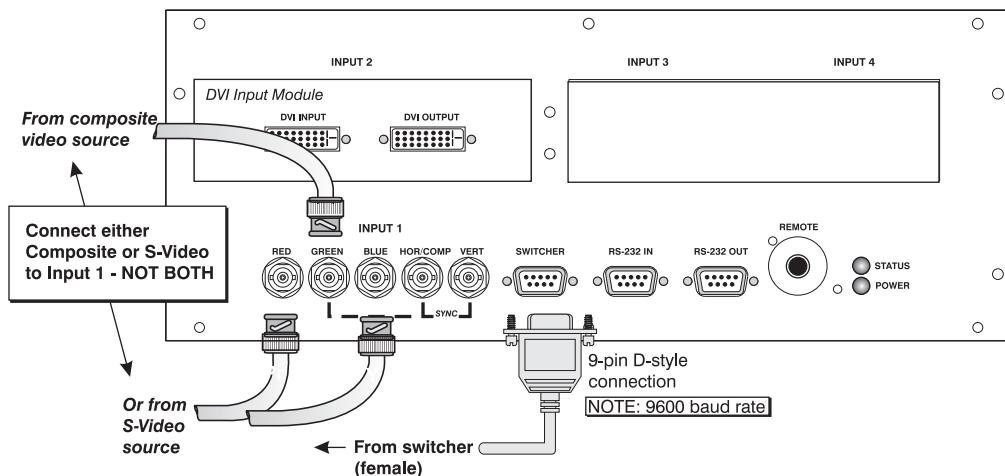

Figure 2.12. Connecting a Marquee™ Signal Switcher
- Connecting a switcher ➤** You can use one or more external *Marquee™ Signal Switchers* or a third party switcher in order to significantly increase the number of sources you can select. If you are using a *Marquee™ Signal Switcher*, connect the switcher’s RGB output to **INPUT 1** and connect an RS-232 serial communication cable between the switcher and the projector serial port labeled **SWITCHER** (see Figure 2.12). The switcher communication link (permanently set at 9600 baud) enables you to access inputs connected to the switcher in the same manner as those connected directly to the projector. For most other third-party switchers, connect and access sources according to the documentation provided with that switcher. Use high quality shielded cables.
If you are using more than one *Marquee™ Signal Switcher*, daisy-chain the RS-232 switcher inputs/outputs together to form a complete network of inputs accessible from the projector (you can network up to 9 switchers), and connect Switcher #1 to the projector as shown in Figure 2.12. In addition, connect the RGB output from each switcher to its matching slot on switcher #1—for example, connect the RGB output from switcher #2 to slot #2 on switcher #1, and the RGB output from switcher #3 to slot #3 on switcher #1. Note that slots used in this manner on switcher #1 are no longer recognized as inputs to the projector—if you select a slot location that is connected to another switcher's RGB output, the projector will display the “no input signal” error message.